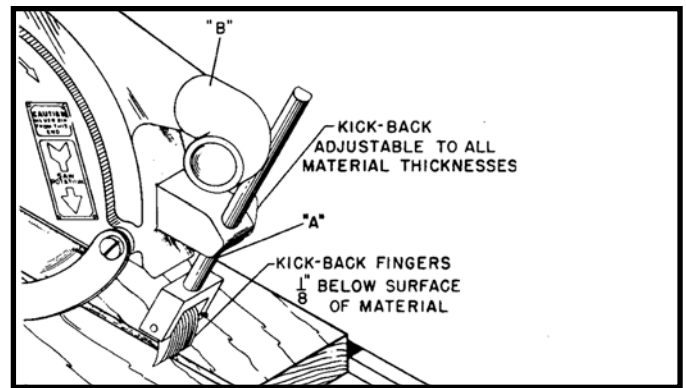

Fig. 46
On all ripping and plowing operations, the back part of the blade guard is lowered so that it just clears the material. This will prevent the material from being lifted off the table. Also, lower the kickback rod (A) Fig. 46, so that the kickback fingers are  $\frac{1}{8}$ " below surface of material. The kickback fingers will then come into contact with the material preventing "kickback." Adjust dust elbow (B) Fig. 46 to direct sawdust to rear of machine.